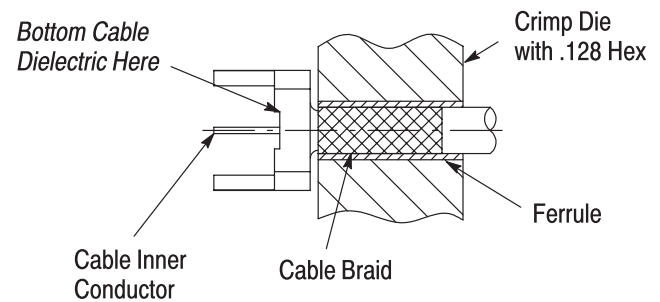

Figure 3
2.2. Crimping the Cable to the Housing (Figure 3)